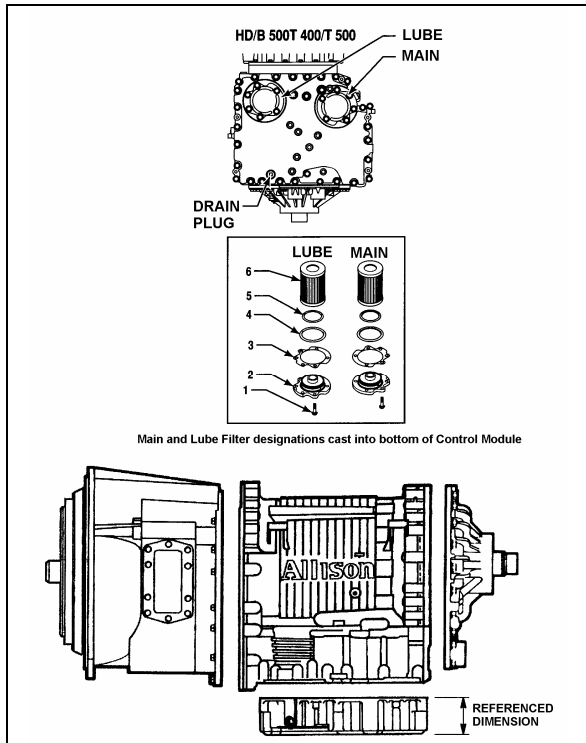

FIGURE 6: DRAIN PLUG AND FILTERS 07074
2. Remove the drain plug from under the transmission (Fig. 6) and allow the oil to drain into a suitable container. Check the condition of the oil as described previously.
3. To replace the integral filters, remove twelve bolts (6 on each cover), two filter covers, two O-rings, two square cut seals and the two filters from the bottom of the control module (Fig. 6).